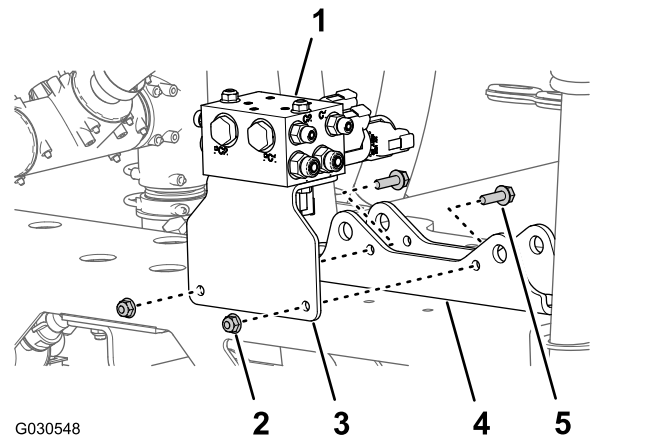

Figure 76
3. Remove the 2 flange locknuts (5/16 inch) and 2 flange-head bolts (5/16 x 1 inch) that secure the support bracket for the boom-lift manifold to the cylinder mount, and remove the manifold and bracket from the machine (Figure 76).